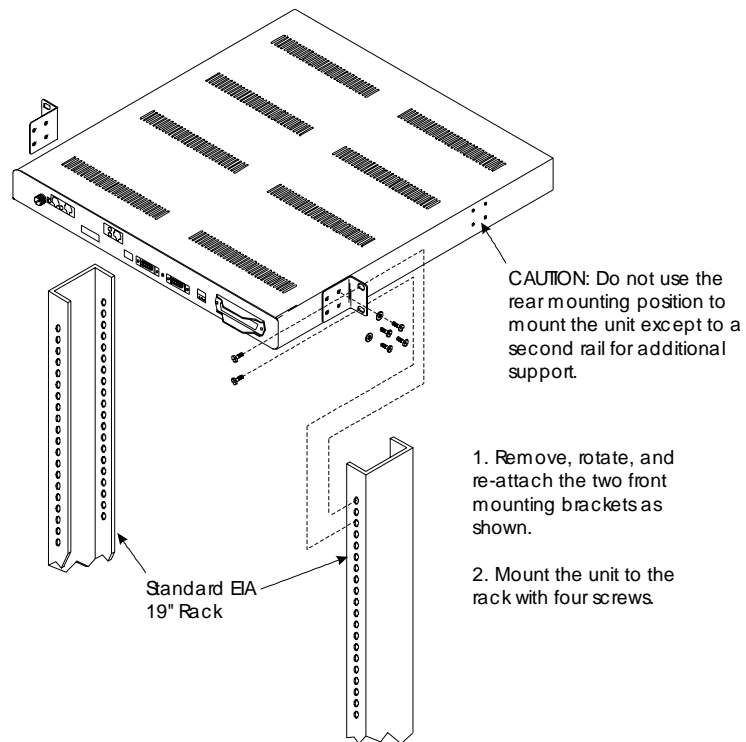

Figure 4-2: Rack Mounting on a 19" Rack Using Small Brackets
1. Remove the two front adapter brackets, rotate them 90 degrees and re-attach the brackets so they face toward the unit back plate (Figure 4-2). This creates a standard five-inch offset mounting typical of telecommunications equipment.